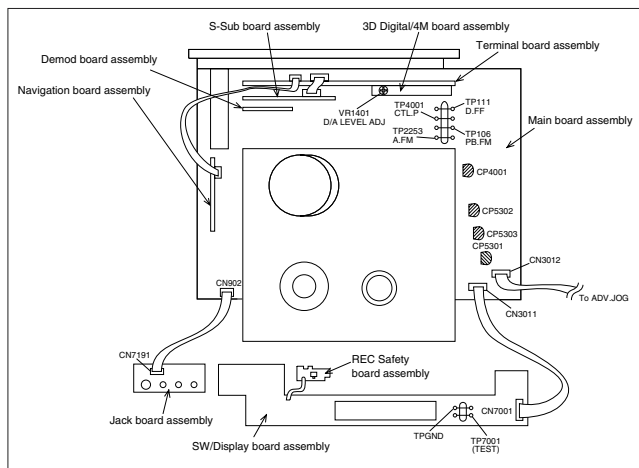

Fig. 1-4-1a
- (1) Refer to the disassembly procedure and perform the disassembly of the major parts before removing the Drum assembly.
- (2) Lower the cassette holder to prepare for the removal of the Mechanism assembly screws. (Refer to the "Procedures for lowering the Cassette holder assembly" of 1.3 Disassembly/assembly method.)
- (3) Remove the combined Mechanism and Main board assemblies.
- (4) If any other major parts are used, remove them also.
- (5) Connect the wires and connectors of the major parts that have been removed in steps (1) to (4). (Refer to Fig.1-4-1a.)
- (6) Place the combined Mechanism, Main board and other board assemblies upside down.
- (7) Insert the power cord plug into the power outlet and then proceed with the diagnostics and servicing of the board assembly.
- (1) Unplug the power cord plug from the power outlet.
- (2) Connect TPGND and TP7001(TEST) on the board assembly with a jump wire. (Refer to Fig. 1-4-1a.)
- (3) Insert the power cord plug into the power outlet.
- (4) With lock levers (A) (B) on the left and right of the Cassette holder assembly pulled toward the front, slide the holder in the same direction as the cassette insertion direction. (For the positions of lock levers (A) (B), refer to the "Procedures for lowering the Cassette holder assembly" of 1.3 Disassembly/assembly method.)
- (5) The cassette holder lowers and, when the loading has completed, the mechanism enters the desired mode.